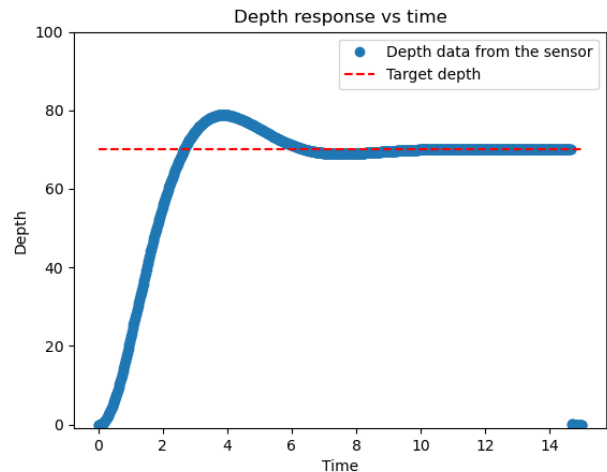

Fig. 1: Live Plotting of PID Parameters
- **PID Control:** We have implemented PID controllers for all critical movement axes, allowing for precise control over the robot's movement and ensures that it remains stable in the water. We implemented an FFT (Fast Fourier Transform) based auto-tuning algorithm to tune the PID parameters, as this is our first year using the new Vehicle. We also supplemented the algorithm with a live plotting feature, shown in figure 1, to allow for manual adjustments to the PID parameters.